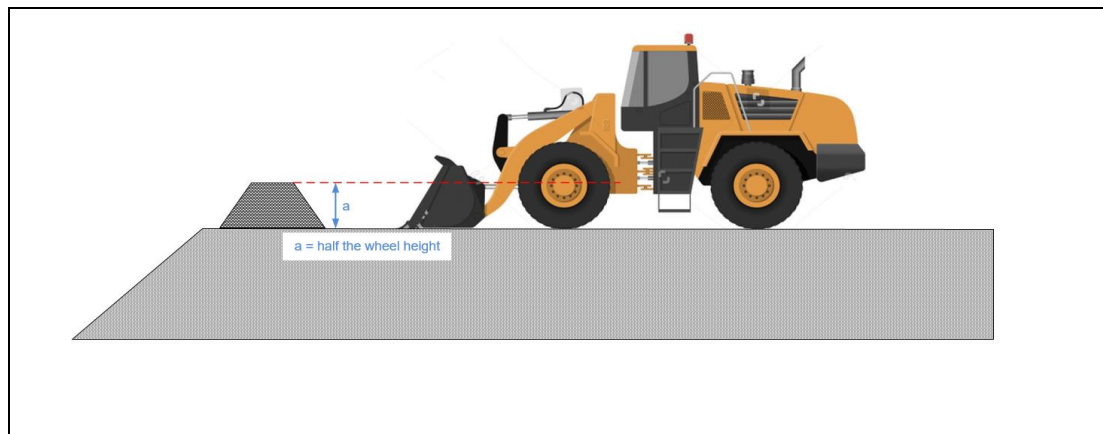

Figure 16 – Safety Bund / Windrow between the Tip Head and Tip Face
- Maintain a safety bund or windrow between the Tip Head Floor and the Tip Face, the height of a safety bund or windrow must be at least half the diameter of the tyre of the largest vehicle to use onsite and approximately 2 metres from the Tip Face, Figure 16.